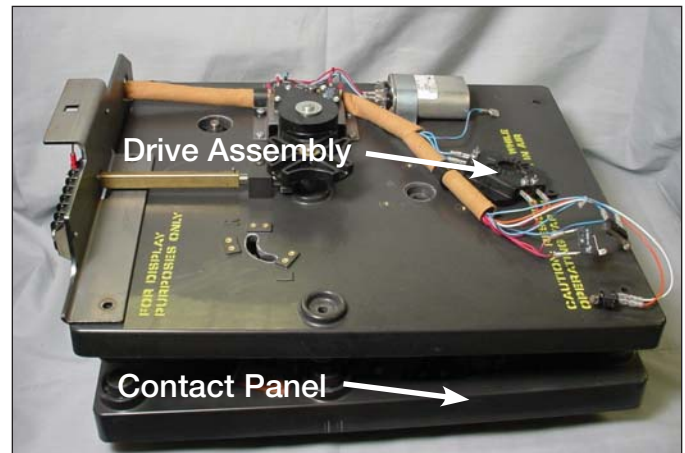

Figure 15.
8. Lift the front drive assembly off of the contact assembly and set aside. See Figure 15.